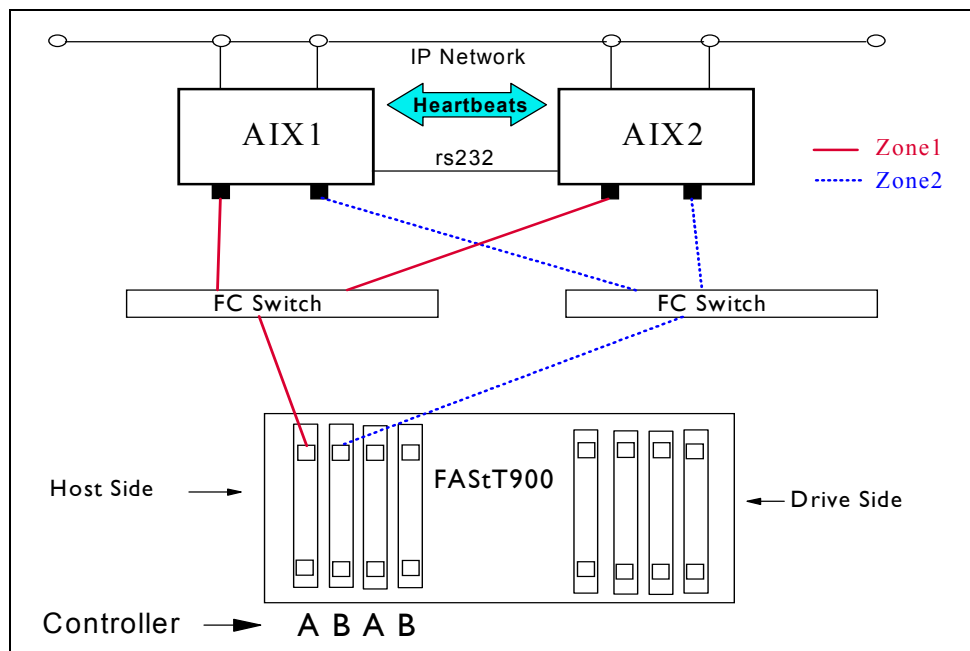

Figure 6-1 HACMP cluster with attachment to FASTT
The primary goal of an HACMP environment is to eliminate single points of failure. Figure 6-1 contains a diagram of a two-node HACMP cluster (this is not a limitation; you can have more nodes) attached to FASTT Storage Server through a fully redundant Storage Area Network. This type of configuration eliminates a Fibre Channel (FC) adapter, switch, or cable from being a single point of failure (HACMP itself protects against a node failure).
FASTT models can be ordered with more hosts ports. In the previous example, only two host attachments are needed. Buying additional mini hubs is not necessary, but can be done for performance or security reasons. Zoning on the FC switch must be done as detailed in Figure 6-1. Every adapter in the AIX system can see only one controller (these are AIX-specific zoning restrictions, not HACMP specific).